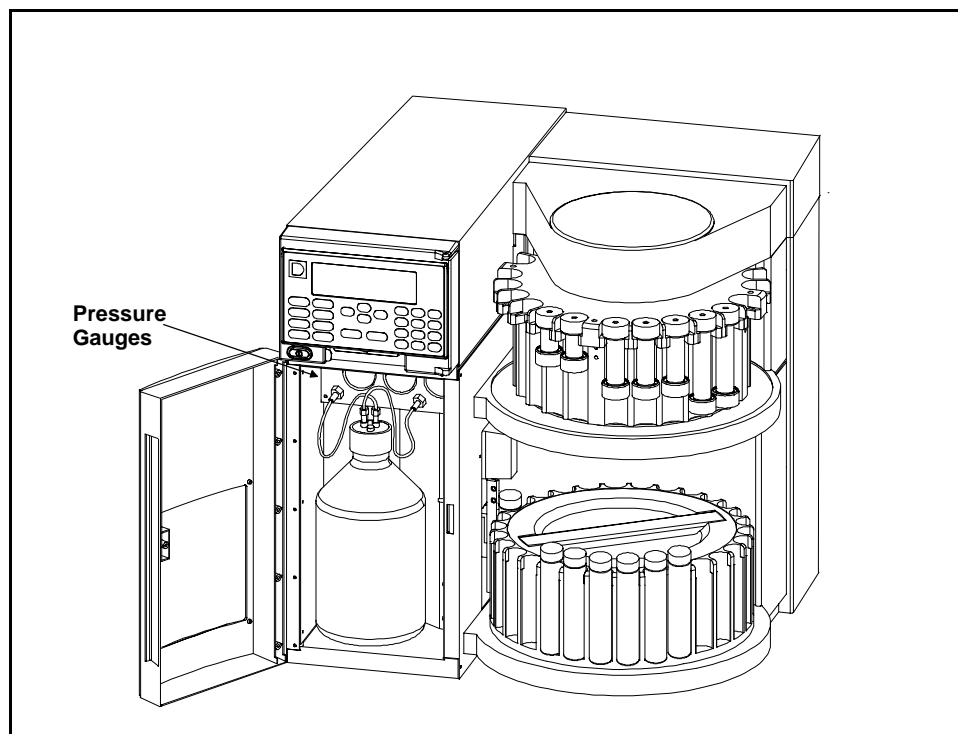

Figure B-4. Location of Pressure Gauges
1. Open the lower front door and verify that the factory-set pressures on the air and gas gauges are correct (see Figure B-4 and the table below).